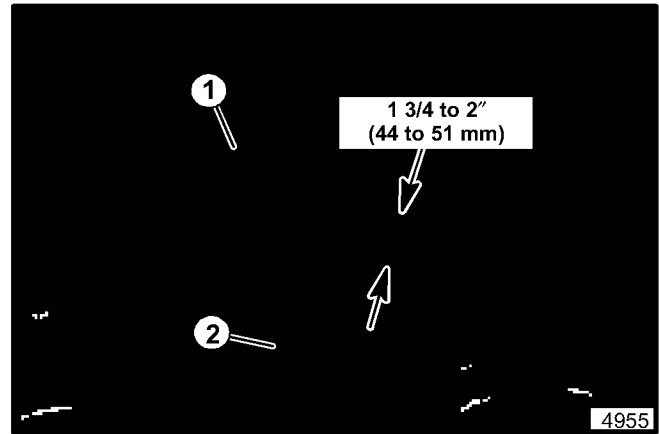

Figure 21. Drive Belt Clearance
9. Engage the drive clutch. Measure the distance from the top edge of the idler pulley, to the top edge of the drive belt (see figure 21). The measurement should be 1 3/4 to 2" (44 to 51 mm).